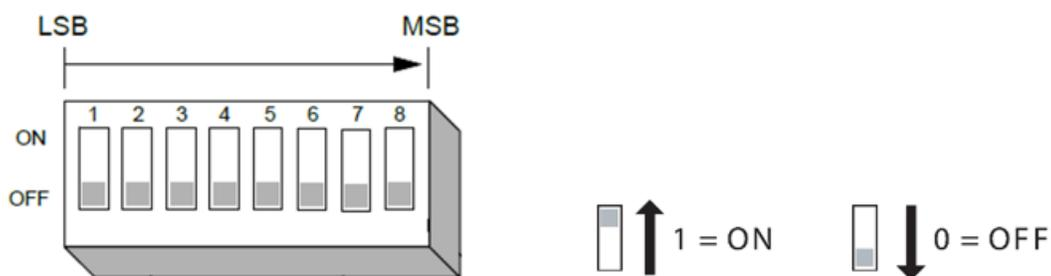

Figure 4: DIP switch SW3 settings
4. Use DIP switch SW3 to configure EOLR value selection and operations. See Figure 4 and Table 10. An EOLR is required for NAC terminated in Class B wiring style.